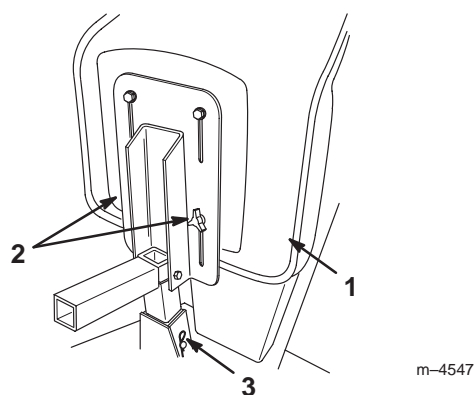

Figure 8
3. Loosen the knobs on the bottom of the seat (Fig. 8) and slide the seat forward or back as needed.
4. To adjust the seat height, remove the hairpin cotter and pin from the seat stand (Fig. 8) and raise or lower the seat as required.